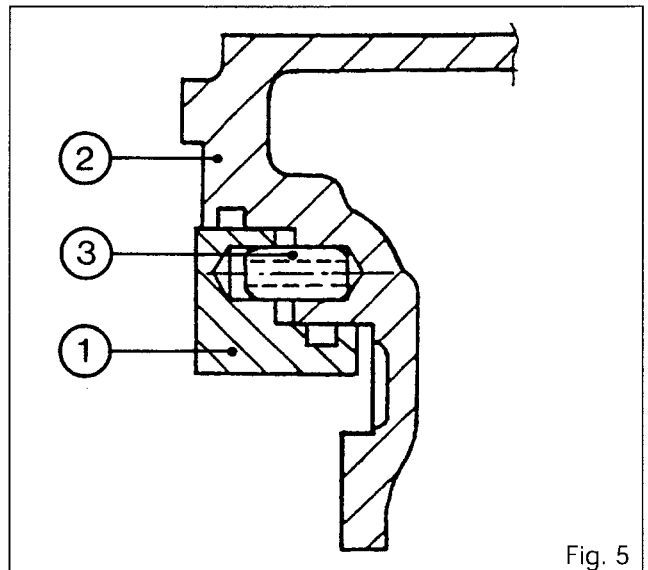

Fig. 5
8. Fit the piston (1) without seals in the housing (2) (Fig. 5). Check that the piston slides freely in the bore in the housing and that it fits onto the centring dowels (3) without any friction points. After carrying out this check, remove the piston.